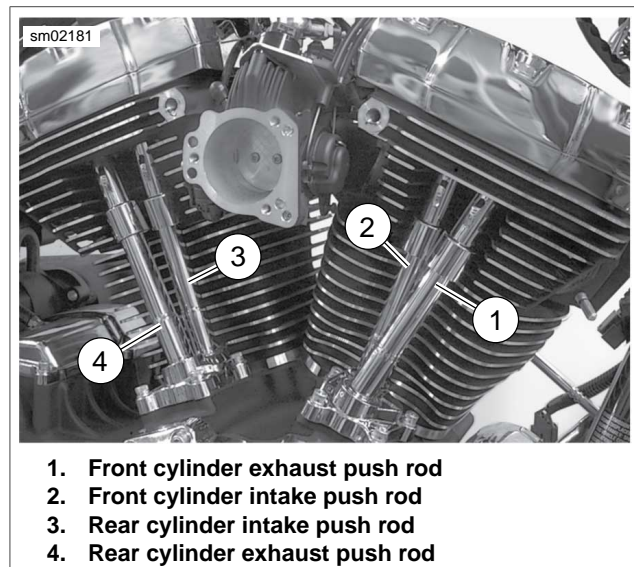

Figure 3-46. Push Rod Locations
- a. See Figure 3-46. For example, if reassembling the rear cylinder, slide the intake push rod (silver) through the front hole in the rocker housing engaging the lifter socket in the inside hole of the lifter cover.